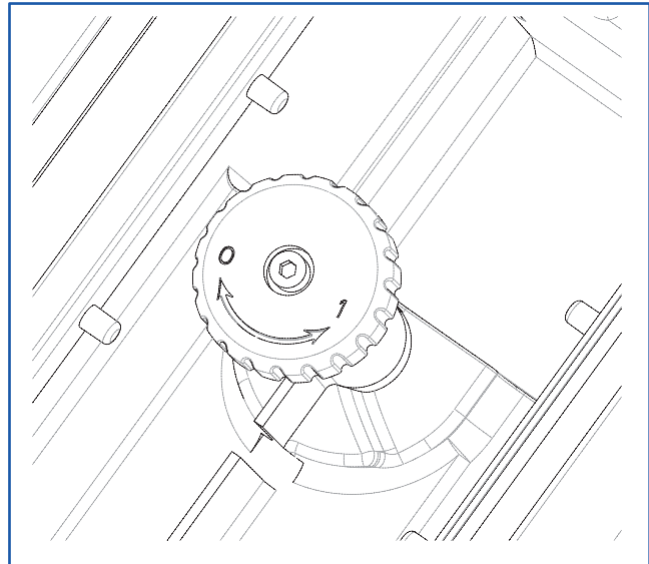

Figure 1.2
2. Raise the recovery tank turning the knob and set it to **1** (Fig. 1.2). In this setting the recovery system will not work and the liquid poured onto the floor will require a more emulsified solution, and therefore, it will allow the detergent to be more effective (“soaking”).